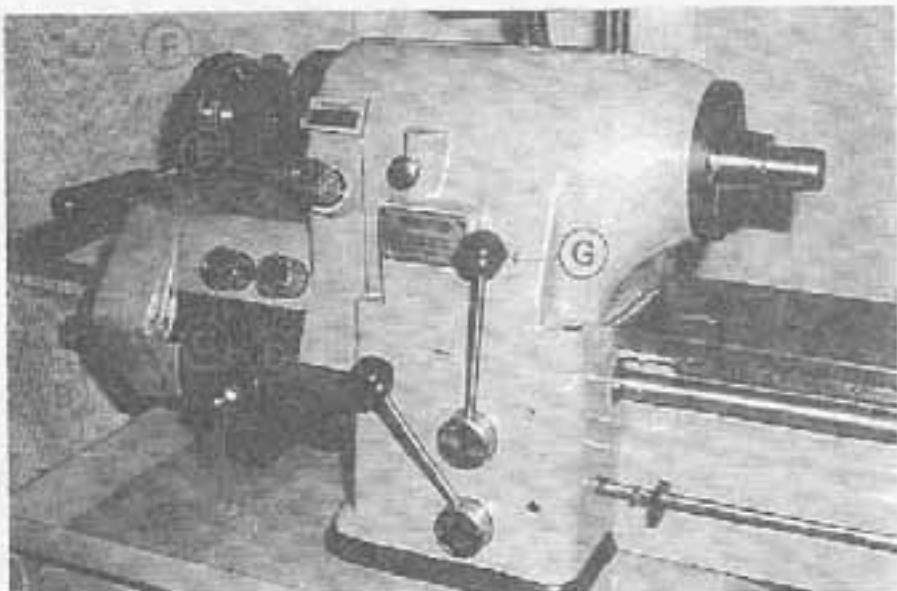
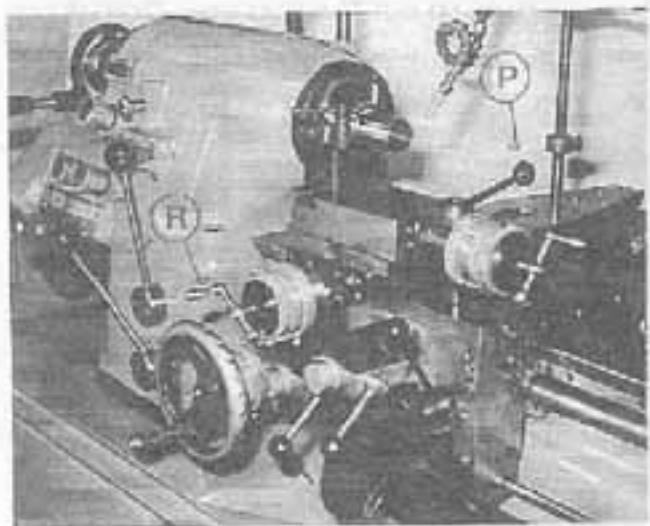
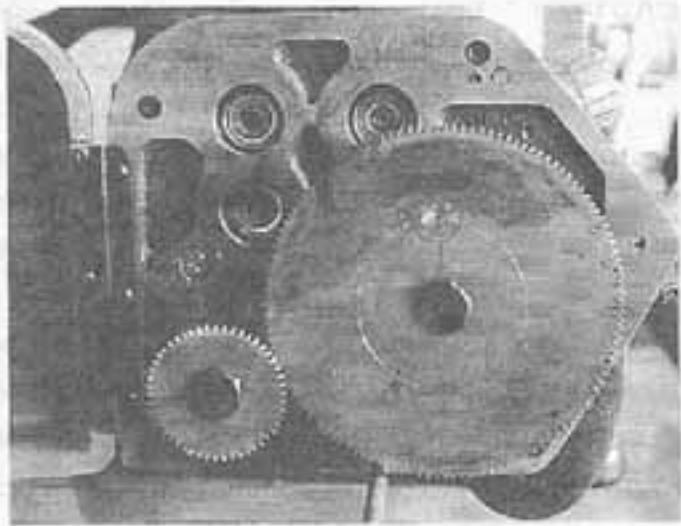

Figure 1 - Headstock and Gearbox
Figure 3 - Carriage and Compound Slide
Figure 4 - Threading Gearbox
Set the quick-change gearbox for desired pitch. To make a selection on the gearbox thread chart, pull the spring-pressured knob "A", Figure 1, out as far as it will go and lower it until it will move sideways to the desired notch directly under the thread required. Raise the handle and let plunger drop into hole. If tumbler handle will not raise far enough to position plunger into hole, loosen knob "S", open gear box door and rotate gear "T", Figure 4, until gears mesh and handle raises, permitting plunger to seat.
Set three-change knob "C", Figure 1, for number corresponding to left side of gearbox thread chart. Set knob "C" so desired number is in bottom position in line with arrow. If the sliding gear cluster does not engage the other gears in gearbox properly to bring the desired number on three-change knob "C" in line with arrow, loosen knob "B" open gearbox door and rotate gear "T", Figure 4, until gear mesh.
Set English /Metric knob "D", Figure 1, so thread system to be cut reads at top of knob. If the sliding gear does not engage properly to bring desired system to read at top, loosen knob "B", open gearbox door and rotate gear "T", Figure 4, until gears mesh and knob is felt to engage detent.
Engage gearbox by turning knob "E", Figure 1, counterclockwise in the direction of arrow marked "THREAD". When turning knob "E", the teeth of the sliding gear within the gearbox may not mesh with the headstock spindle gear teeth. If this is the case, turn headstock spindle with handwheel "F" while turning knob "E" to left until definite click is heard.
Carriage control lever "G", Figure 1, when moved to the left, will cause carriage to move to the left. When the carriage control lever is moved to the right, the carriage will move to the right. Carriage travel can be stopped at any time by placing control lever "G" in center position.
With carriage at rest and quick-acting handle "P" Figure 3, forward in cutting position, feed the desired amount for each threading pass using cross slide handwheel "R".
Move lever "G", Figure 1, to the left and carriage will travel until it contacts stop at headstock end of machine. The headstock spindle will continue to run. Carriage stops cause only the gearbox, lead screw and carriage to stop.
After each pass, withdraw threading tool from work with quick-acting handle "P", Figure 3, and return carriage to starting position by moving carriage control lever "G", Figure 1, to the right.
#### **BEFORE SETTING UP CHANGE GEARS, PLACE KNOB "A", FIGURE 1, IN THE "OUT" POSITION**
4. Losen knob "S", Figure 1, open gearbox door and remove 50 tooth gear "S", Figure 4, and 127 tooth gear "T". Do not misplace key under 50 tooth gear.
13. Close gearbox door, tighten knob "B", Figure 1, and turn three-change knob "C" to position specified on chart.
16. Follow same procedures for setting carriage stops lead screw nut and compound slide as when cutting threads from the gearbox. Use of carriage control lever "G", Figure 1, and quick-acting handle "P", Figure 3, will also be the same as when cutting threads from the gearbox.
**NOTE :** (a) 50 tooth gear "S", Figure 4, and 127 tooth gear "T" must be remounted (without bracket) to obtain metric thread pitches through gearbox.
3. Loosen knob "B", Figure 1, open gearbox door and remove 127 tooth gear "T", Figure 4.
15. Follow same procedures for setting carriage stop, lead screw nut and compound slide as when cutting threads from the gearbox. Use of carriage control lever "G", Figure 1, and quick-acting handle "P", Figure 3, will also be the same as when cutting threads from the gearbox.
- (a) 50 tooth gear "S", Figure 4, and 127 tooth gear "T" must be remounted without bracket to obtain metric thread pitches through gearbox.